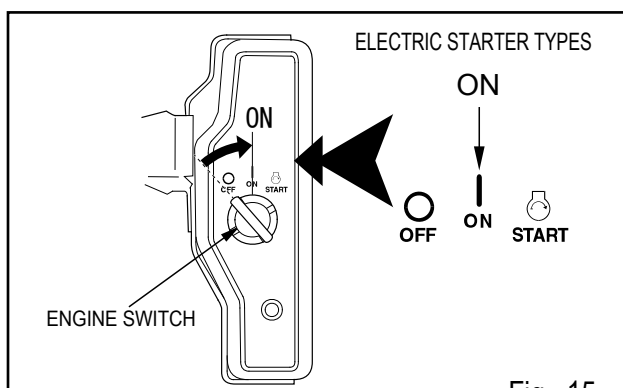

Fig. 15
3. Turn the engine switch to the ON position. (Fig.15)